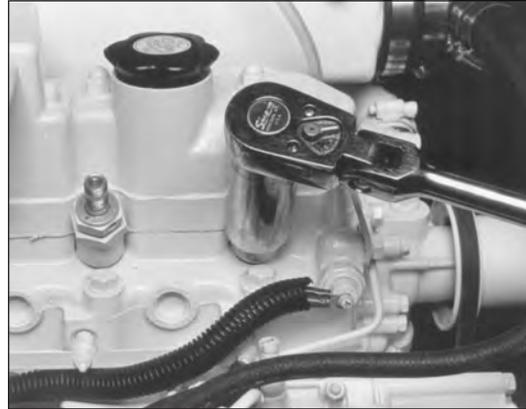

Figure 11: Unscrew injector.
- d. Remove the return line retaining bolts (Figure 10). Remove the return line (Figure 11).